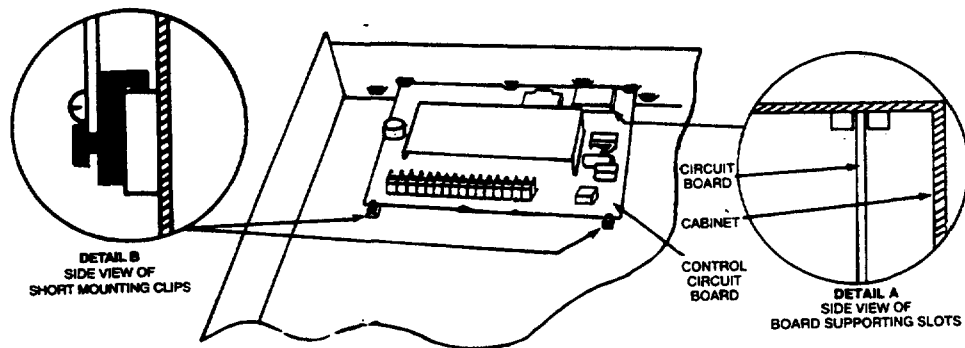

Figure 2. Mounting The PC Board
Mounting The Control's Circuit Board Alone in The Cabinet (Fig. 2)
1. Hang two *short Black* mounting clips (provided) on the raised cabinet tabs (see Detail B in Fig. 2).
3. Swing the base of the board into the mounting clips and secure the board to the cabinet with the accompanying screws (see Detail B in Fig. 2).